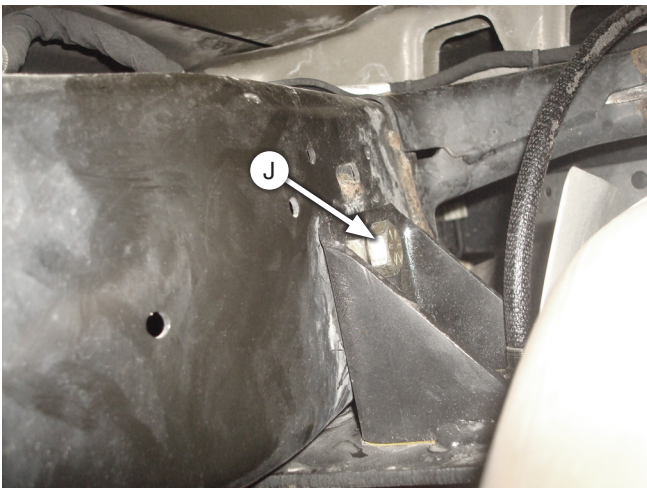
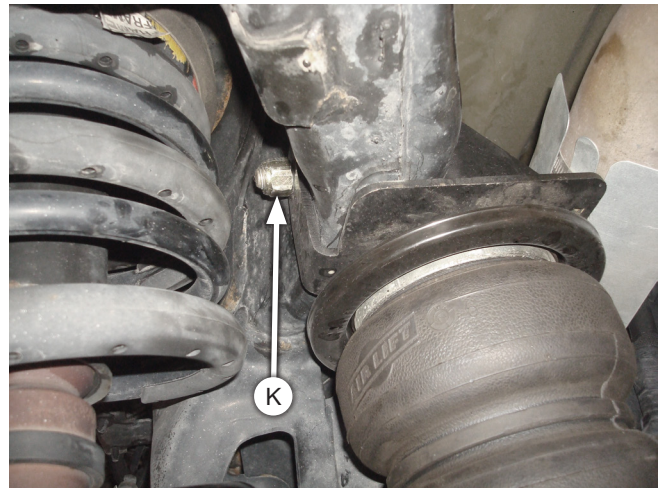

Fig. 11
Fig. 12
2. Insert a 1/2"-13 x 3 1/2" hex bolt (J) through the upper bracket and through the truck frame (Fig. 11). The bolt must come from inside the frame. Place a 1/2"-13 nylon lock nut (K) onto the bolt, but leave loose at this time (Fig. 12).